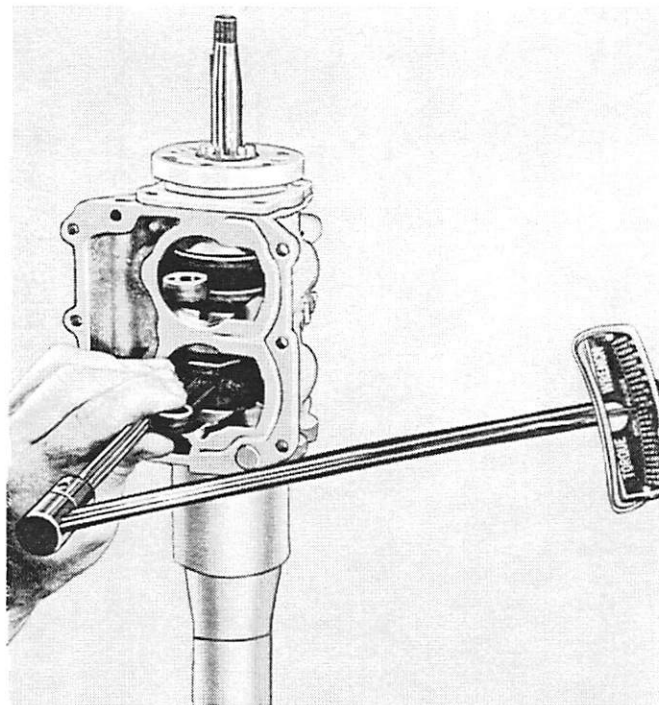

Figure 15. Torquing Connecting Rod Cap Screw
6. Secure with nuts, torquing to 80 in. lbs. with Torque Wrench (91-25666) and extension. (Figure 15) (*Refer to Torque Specification Chart in Miscellaneous Section VIII.*)